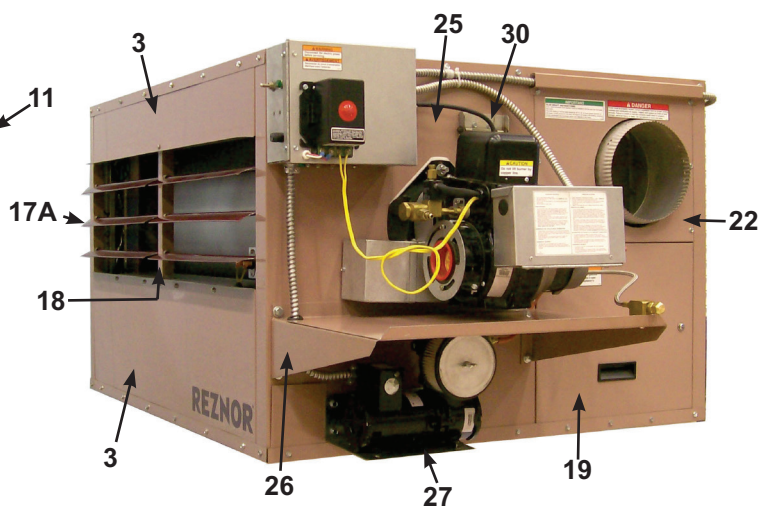
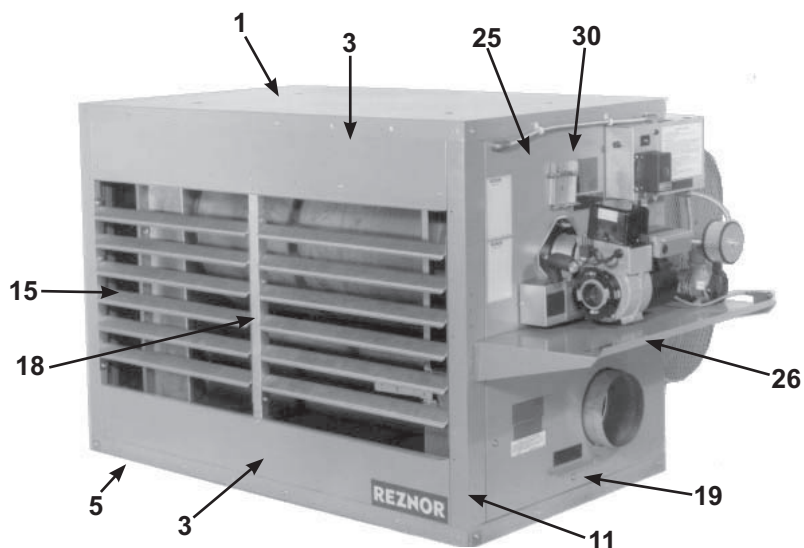
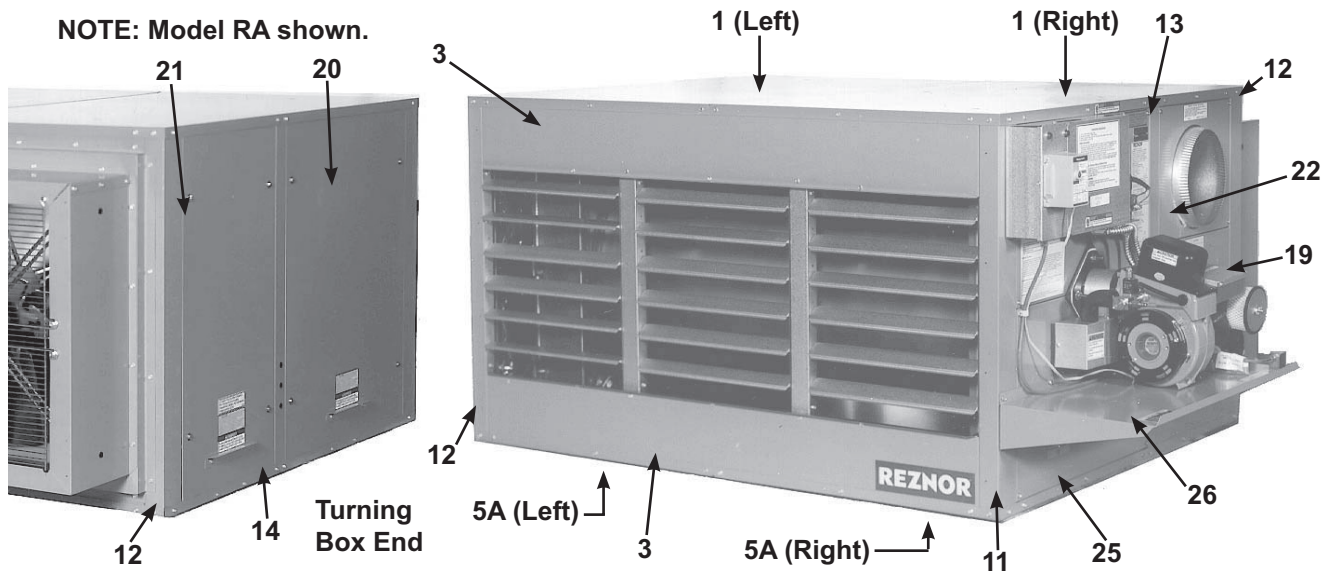

Figure 16. Cabinet Components—Model RA/RAD, Unit Sizes 150 and 250 (Refer to Table 12)
Figure 17. Cabinet Components—Model RA/RAD, Unit Size 350 (Refer to Table 12)
Figure 18. Cabinet Components—Model RA/RAD, Unit Size 500 (Refer to Table 12)
- Cabinet components for models RA and RAD are shown in Figure 15, Figure 16, Figure 17, Figure 18, and Figure 19 and are listed in Table 12.